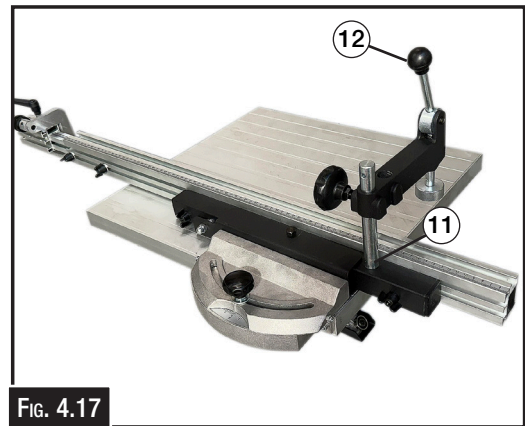
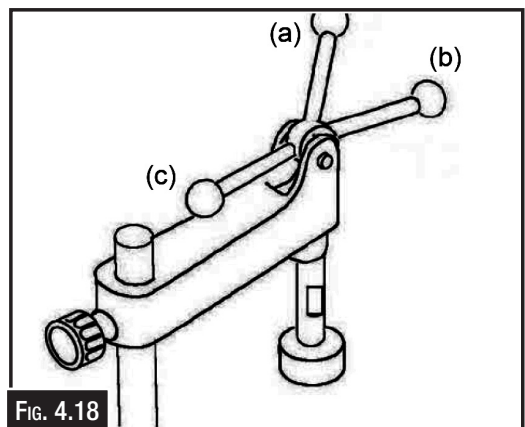

FIG. 4.17
FIG. 4.18
**P. Installing the Workpiece Clamp (Fig. 4.17)**
1. Fit the pulling rod into its locating hole situated on the stop tube (Fig. 4.17). Hold the rod in place with the supplied counter sunk screw (11) (from below).
2. Attach the workpiece clamp (12) to the pulling rod; the desired height can be held with the hand wheel.
4. Apply the workpiece clamp with the lever in position (a) to the pulling rod. (Fig. 4.18)